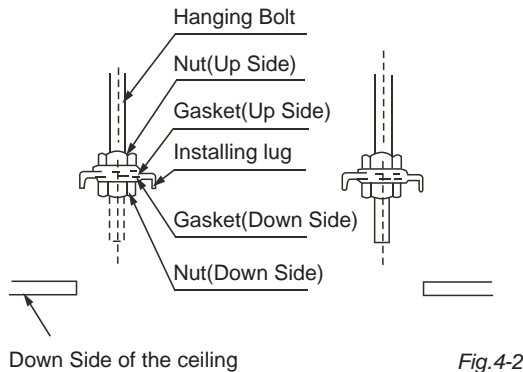

Fig.4-2
1. Adjust the nut's site, the interval between gasket (Down Side) and the ceiling should according to actual construction. See Fig.4-2